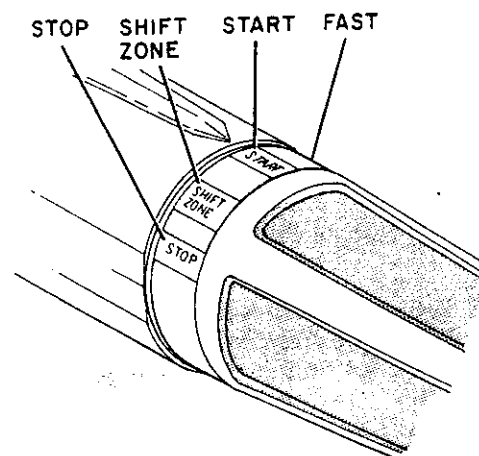

Figure 7. View of typical twist grip throttle.
- C. Turn twist grip handle to "Start" position. Do not try to advance beyond "Start" position. On modles with clutch or gear shift, the automatic lockout feature engages when shift lever handle is in "Neutral" position. (See Figures 7 and 9).